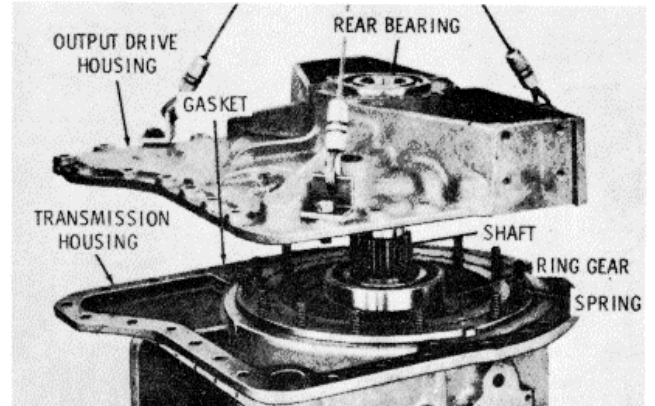

Figure 15-67. Removing Output Drive Housing from Transmission Housing
4. Remove twenty-seven bolts and lockwashers that secure the output drive housing to the transmission main housing. Remove bolts 9 and 20 (A, Foldout 12) and lockwashers 8 and 19. Using a lifting sling (Figure 15-67), remove output housing 2 and attached parts. If the reverse planetary starts to raise with the housing, pry the ring gear away from the housing. Remove and discard gasket 1.
1. Remove the reverse-clutch piston return springs from the transmission (Figure 15-67).